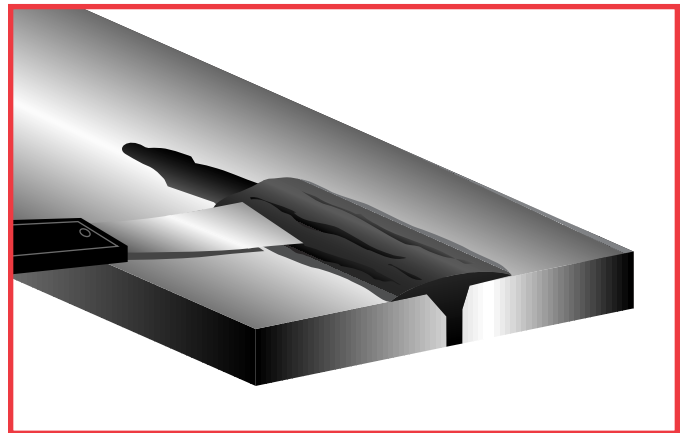

Figure 11. Fill the repair area with epoxy.
4. **Apply the epoxy** with a putty knife, forcing the epoxy material into the crack. Fill the "V" thoroughly, and overlap approximately 1" on each side of the application area. (See figure 11)